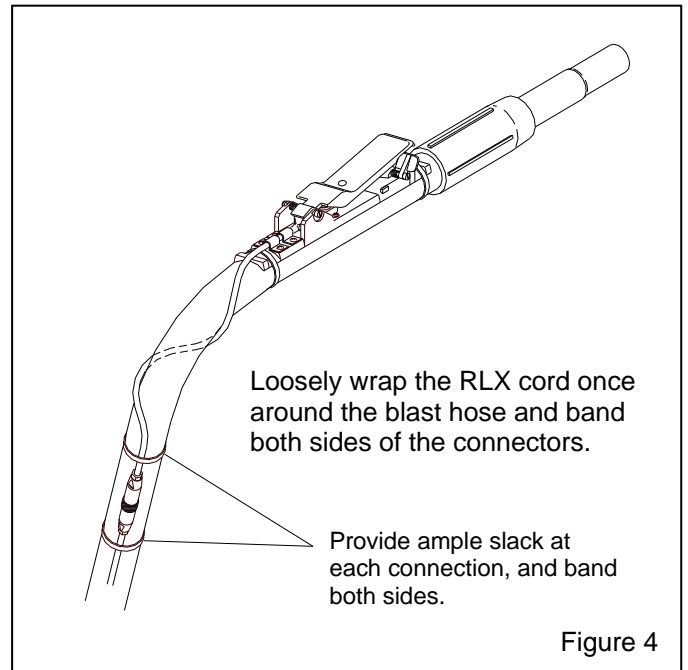

Figure 4
**2.3.7** Loosely wrap the whip cord from the electric control handle once around the blast hose as shown in Figure 4, and then connect it to the control cord. It is important to provide slack at all cord connections. If the cord is not wrapped and securely banded as described, excessive strain will cause the wires to pull out of the connectors or electric switch when the hose is bent or pulled.
**2.3.8** Band the cord to the hose on both sides of the cord connections as shown in Figure 4.